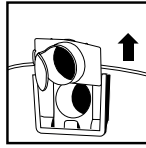

FIGURE 20
30. Remove the inlet deflector from the deflector guide. **NOTE:** Hose must be removed before the inlet deflector can be taken out. **FIGURE 20.**